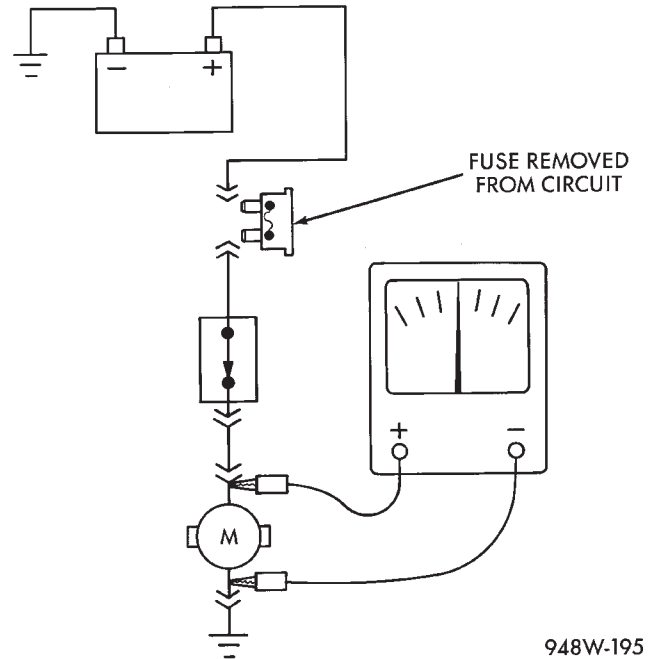

Fig. 9 Testing for Continuity
(1) Remove the fuse for the circuit being checked or, disconnect the battery.
(2) Connect one lead of the ohmmeter to one side of the circuit being tested (Fig. 9).
(3) Connect the other lead to the other end of the circuit being tested. Low or no resistance means good continuity.